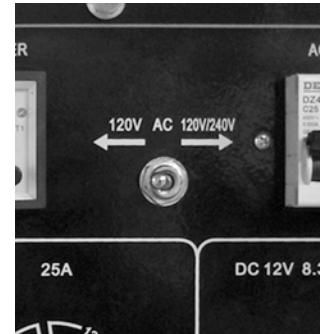

Figure 6
3. Determine if you will use 120V or 120V/240V. Move the Toggle Switch left or right to the correct setting (Figure 6)